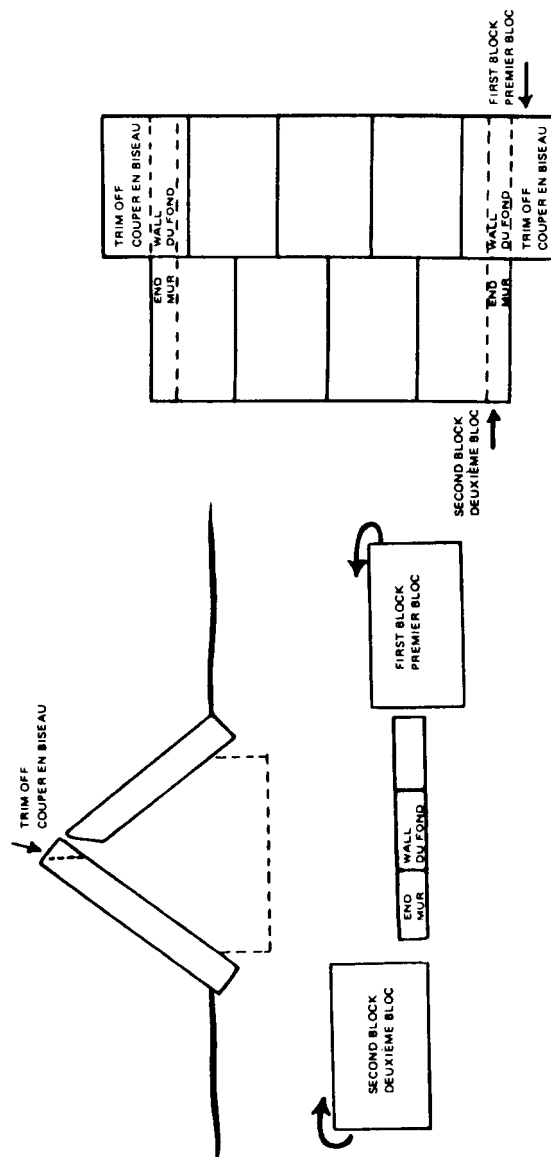

Figure 3-23 Snow House - Stage 3
- d. Lay snow blocks alternately along the sides and leaning in to each other. Cut all the snow blocks the same width, this will keep the joints staggered. Trim the top of the snow blocks for a close fit (see Figure 3-23).